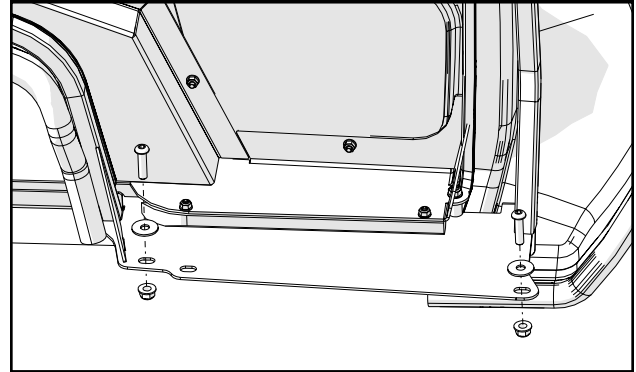

Fig. 3.6 (floorboard (Drive 2) - left side)
**3.6** Per figure 3.6, install hardware into left floorboard. Leave bolts loose.